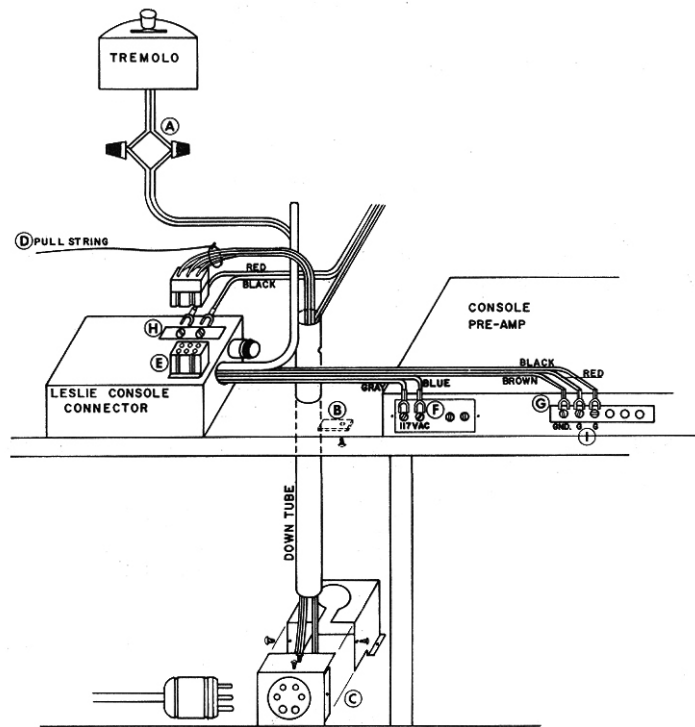

Figure 1.
3. Mount the console connector chassis inside the organ within reach of the down tube (B, figure 1), organ pre-amplifier, and tremolo switch control cable. Use the cadmium plated screws provided.
4. Connect the tremolo control cord to the AC type wires from the console connector, using the wire nuts provided (A).
5. Locate the down tube (B) which is near the junction box. Remove its screw and locking clamp. Then slide the tube upward about 3 inches to make room for the extension chassis.
9. Pull extension cable up the tube and onto the tone generator support shelf (D). Insert the extension plug into its socket on the console connector (E).
10. Fit the down tube into its hole on the extension chassis and reassemble the chassis. Using the bronzed wood screws provided, mount the extension chassis on the bottom shelf (C).
11. Connect the blue and grey console connector wires to the 117-VAC terminals behind the protective cover on the organ pre-amplifier (F).
12. Connect the brown console connector wire to the GND terminal on the organ pre-amplifier (G).
13. Remove the red and black main speaker wires from the two G terminals on the organ pre-amplifier. Connect them to the two screw terminals on the console connector chassis (H).